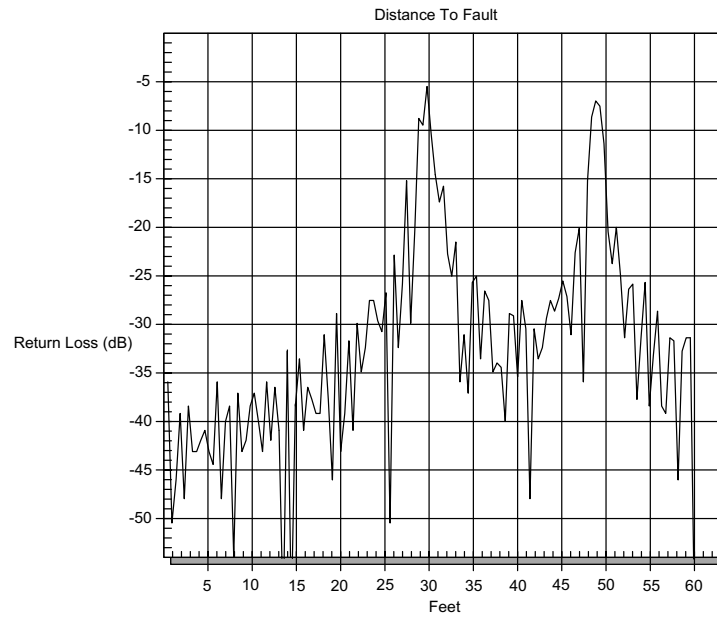

Figure 3-7. Rectangular Windowing Example
*In situations where there may be a small discontinuity close to a large one, side lobe reduction Windowing should be used. When distance resolution is critical Windowing can be reduced. The types of Windowing in order of increasing side lobe reduction are: rectangular, nominal side lobe, low side lobe, minimum side lobe. Figures 3-7 thru 3-10, on pages 3-11 and 3-12, are examples of the types of Windowing.*